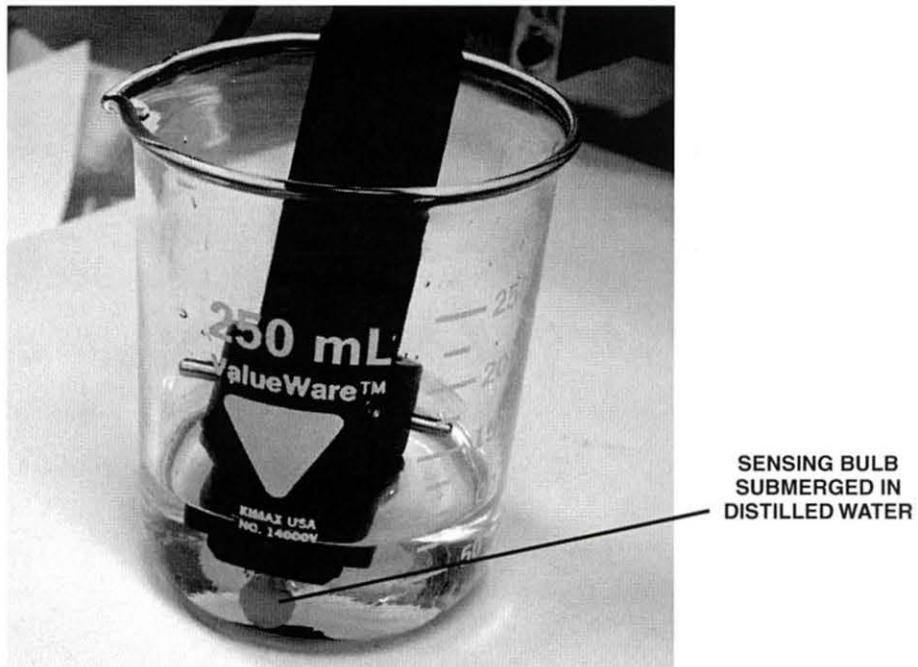

Figure 32. Electrode Placed in Distilled Water
B. Place the electrode into the distilled water, as shown in figure 32, and leave it there for approximately 2 minutes.